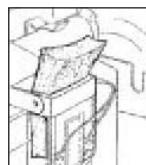
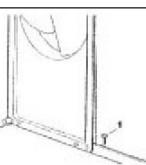

Fig.16.
Fig.17.
- 5) Unlock the sensor and the baffle by removing the transit packaging 1 and tape 2, which have been applied to avoid any damage during transportation (Fig.16 & Fig.17).